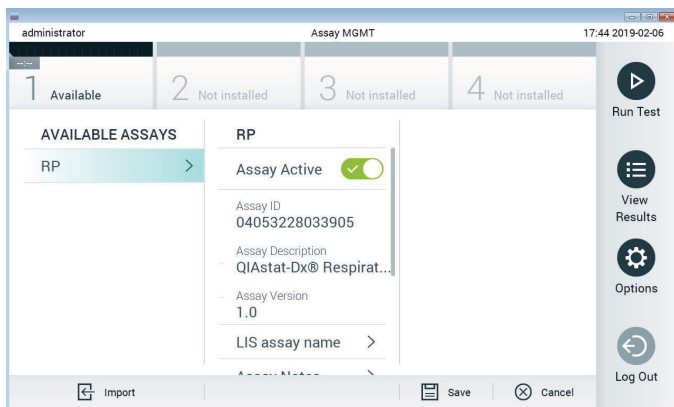

Figure 37. Activating the assay.
7. The assay becomes active by selecting **Assay Active** (Figure 37).